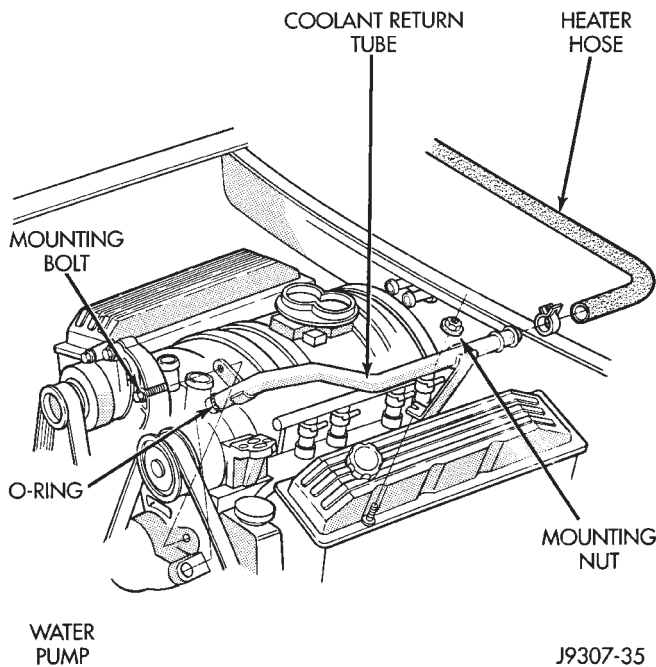

Fig. 21 Coolant Return Tube—5.2L Engine
- (4) Unplug wiring harness from A/C compressor.
- (5) Remove air duct at throttle body.
(6) Disconnect A/C lines from clip at intake manifold.
(7) Remove heater hose coolant return tube mounting bolt and nut (Fig. 21). Remove tube from engine and discard the old tube O-ring.
(5) Install a new O-ring to the heater hose coolant return tube (Fig. 21). Coat the new O-ring with anti-freeze before installation.
(6) Install coolant return tube to engine (Fig. 21).